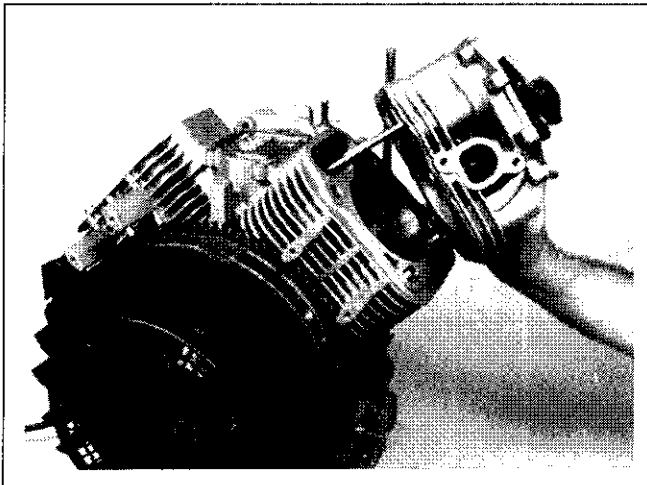

Figure 9-44. Removing Cylinder Head Assembly.
3. Carefully remove the push rods, cylinder heads and head gaskets. See Figure 9-44.